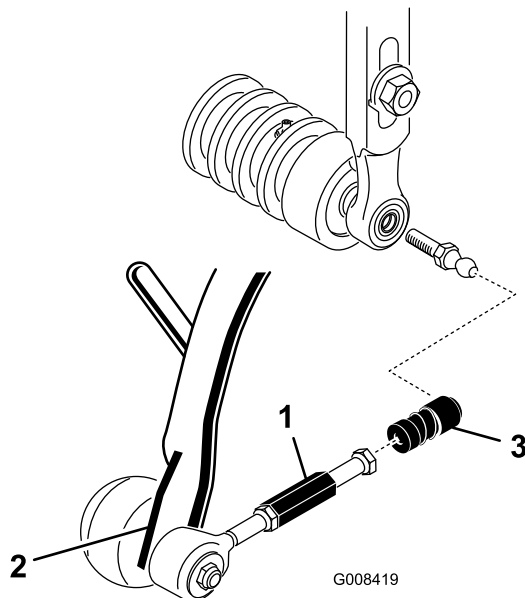

Figure 11
5. Slide the sleeve back on each ball joint receiver and hook the receiver onto the cutting unit ball stud (Figure 11).